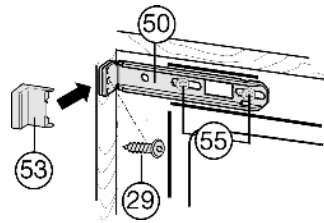

Fig. 20
- ▶ Slightly loosen the screws Fig. 20 (55).
- ▶ Secure the top mounting bracket Fig. 20 (50) to the unit wall with a $\varnothing 4 \times 19$ chipboard screw Fig. 20 (29).
- ▶ Break off the protruding end of the cover Fig. 20 (53).
- ▶ Tighten the screws Fig. 20 (55).
- ▶ Place the cover Fig. 20 (53) in position.